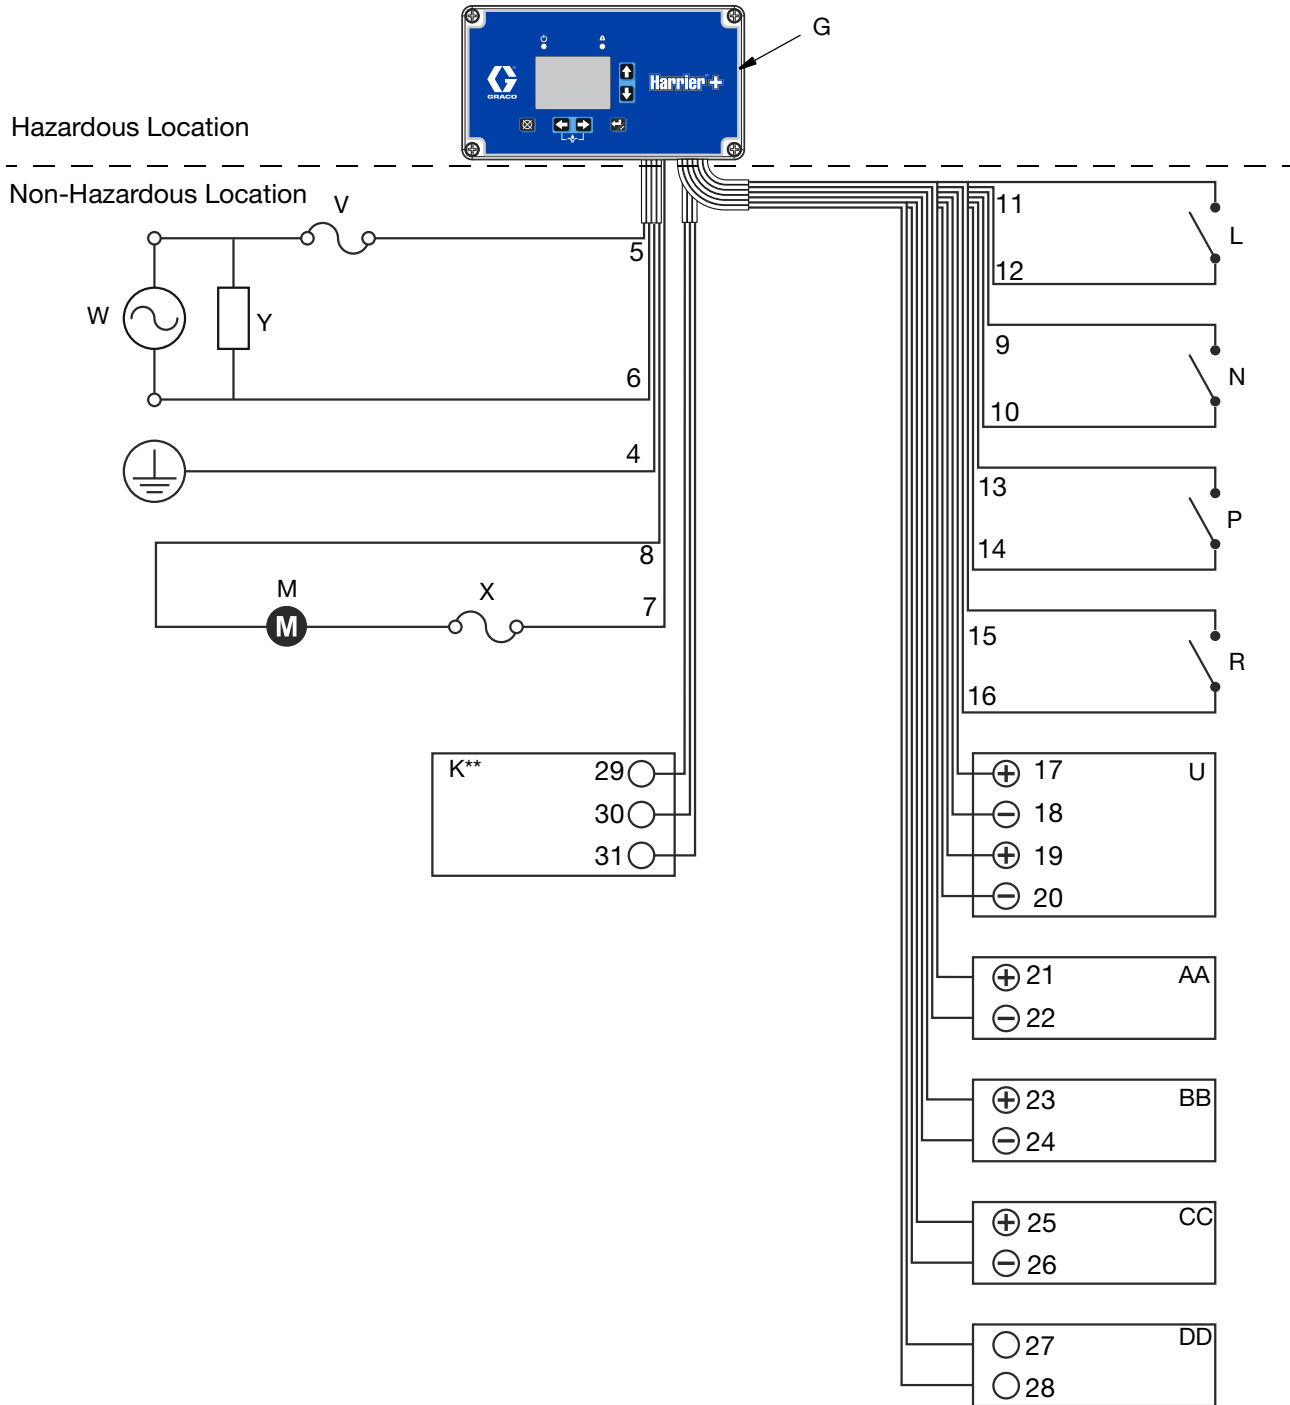

FIG. 4: Typical 120 VAC Installation
FIG. 4 is an example of 120 VAC installation. Your installation may differ from what is shown here. The Harrier+ controller (G), with wiring, is supplied by Graco. All other components are supplied by the customer. Contact your Graco distributor for assistance in planning a system to suit your needs.